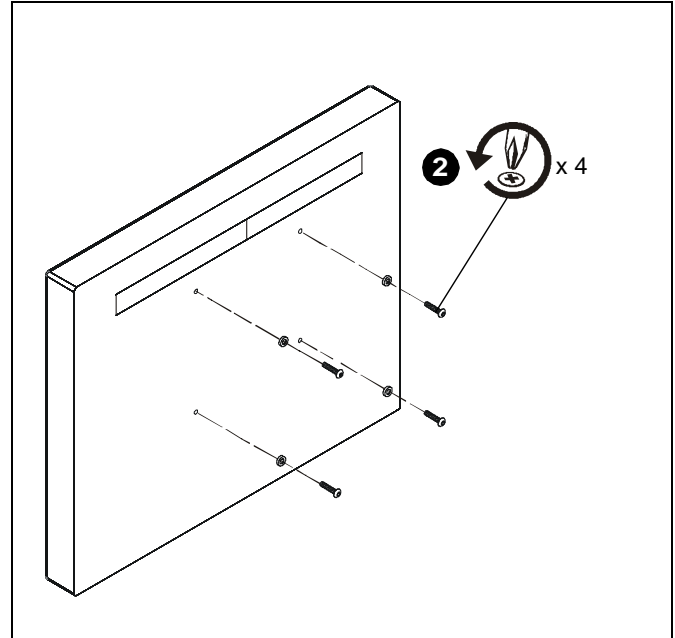

Figure 4
2. Remove four sets of bolts and washers that were shipped attached to the back of the display. Set hardware aside for re-use. (See Figure 4)